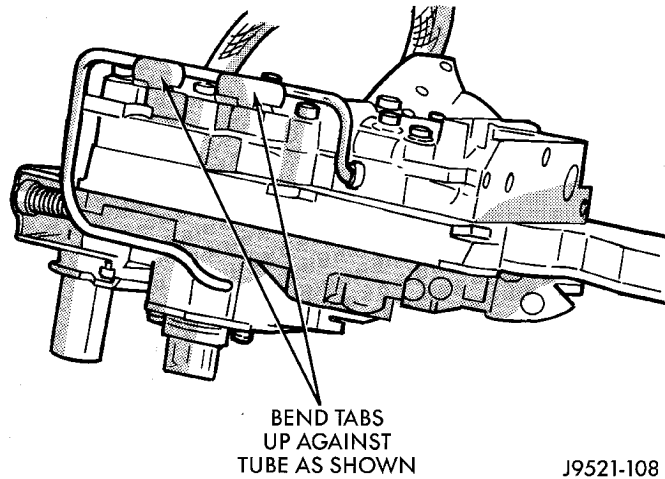

Fig. 88 Securing Boost Valve Tube With Brace Tabs
(7) Bend tube brace tabs up and against tube to hold it in position (Fig. 88).
(8) Tighten all valve body housing screws to 4 N·m (35 in. lbs.) torque after tube and brace are installed. Tighten screws in diagonal pattern starting at center and working outward.